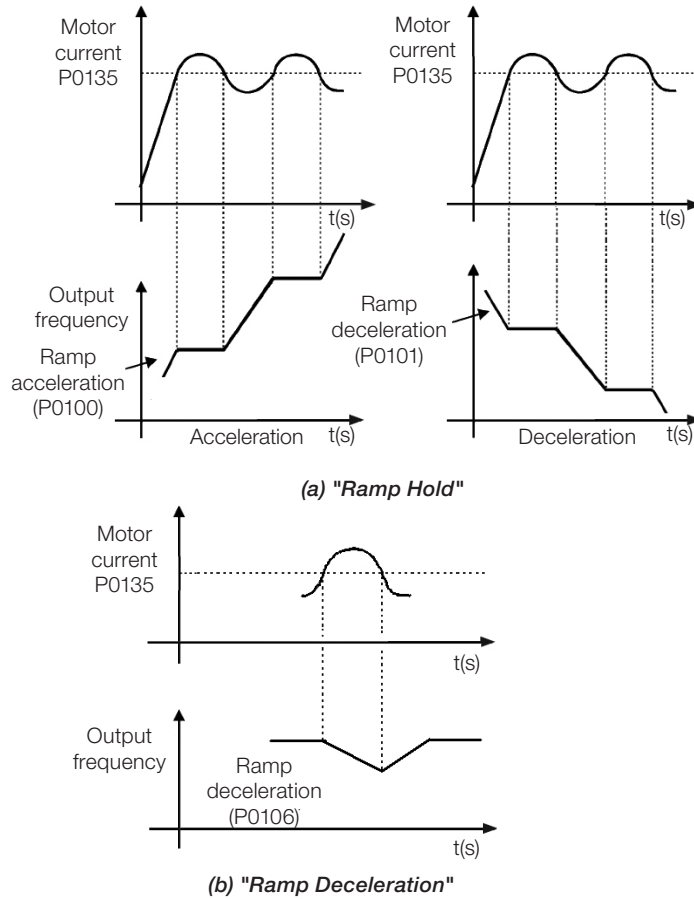

Figure 9.10: (a) and (b) Actuation modes of Current Limitation via P0135
- Actuation: the DC link voltage is measured (P0004) and compared to the value set in P0151; the difference between those signals (error) is multiplied by the proportional gain (P0152); the result is then added to the ramp output, as per Figure 9.8 on page 9-10 and Figure 9.10 on page 9-12.
- Actuation: if the motor current exceeds the value set in P0135 during acceleration or deceleration, the speed will not be incremented (acceleration) or decremented (deceleration). When the motor current reaches a value below P0135, the motor accelerates or decelerates again. Refer to Figure 9.10 on page 9-12.
- Actuation: if the motor current exceeds the value set in P0135, a null value is forced for the speed ramp input forcing the motor deceleration. When the motor current reaches a value below P0135, the motor accelerates again. Look at Figure 9.10 on page 9-12.
Current level to activate the current limitation for the Ramp Hold and Decelerate Ramp modes, as per Figure 9.10 on page 9-12, respectively.